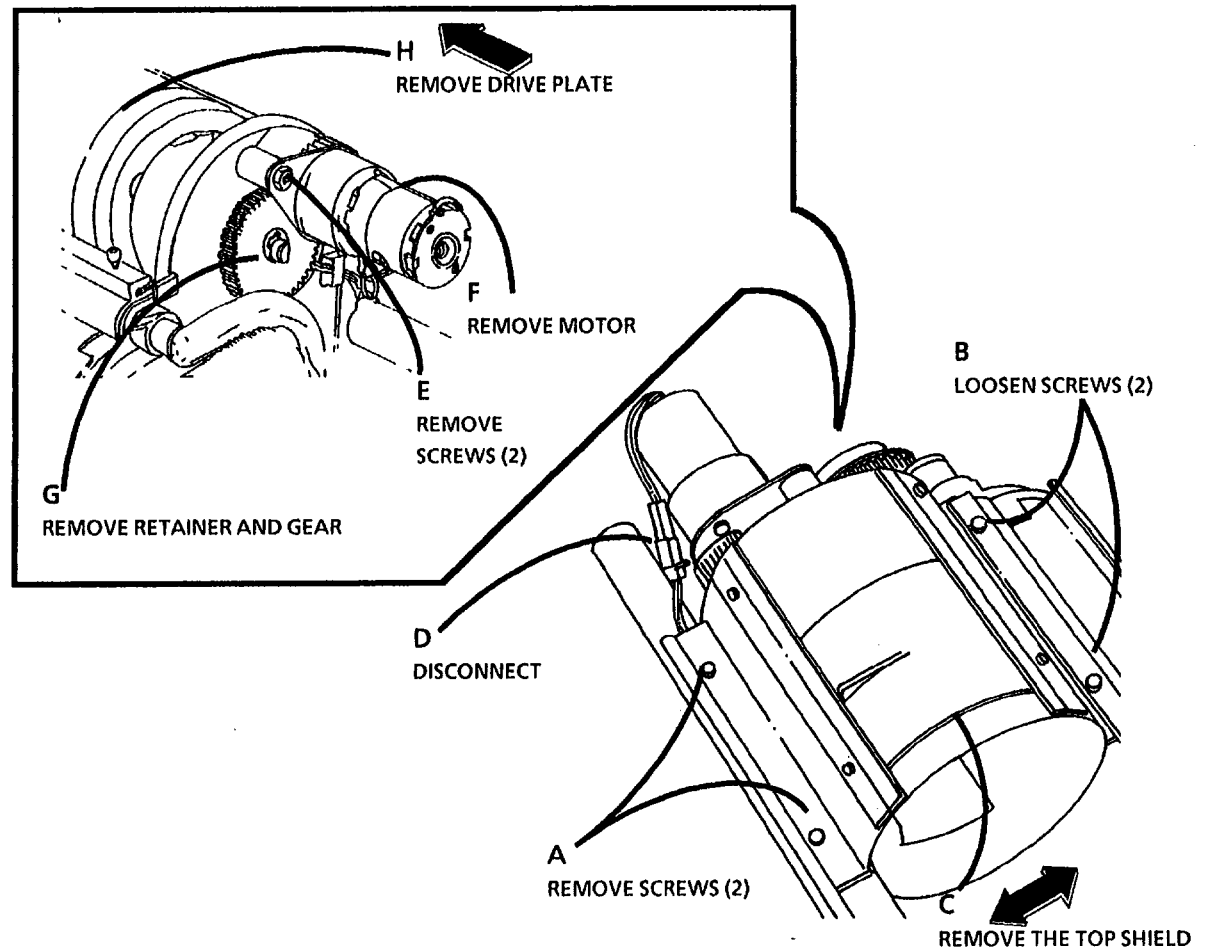

Figure 1. Remove the Cartridge Drive Plate
2. (Figure 1): Remove the Cartridge Drive Plate.